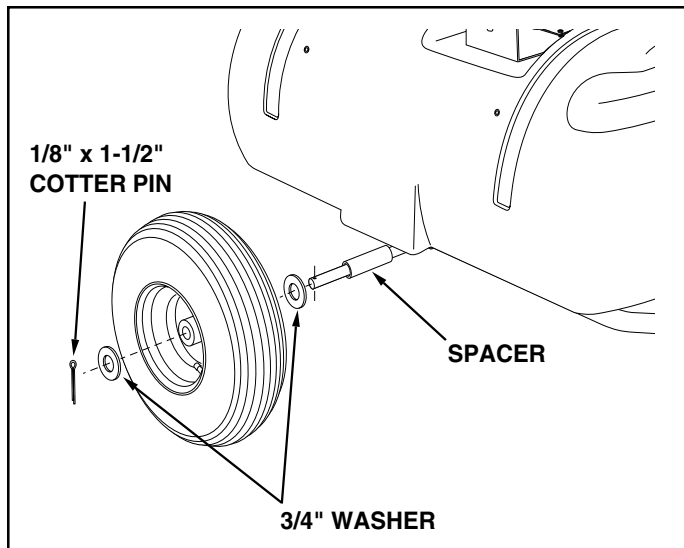

FIGURE 5
- Slide the axle through the two axle brackets. See figure 5.
- Assemble a spacer, a 1/2" washer, a wheel (valve stem facing out) and another 1/2" washer onto the axle. Assemble a 1/8" x 1-1/2" cotter pin to the end of the axle. Repeat on other end. See figure 5.